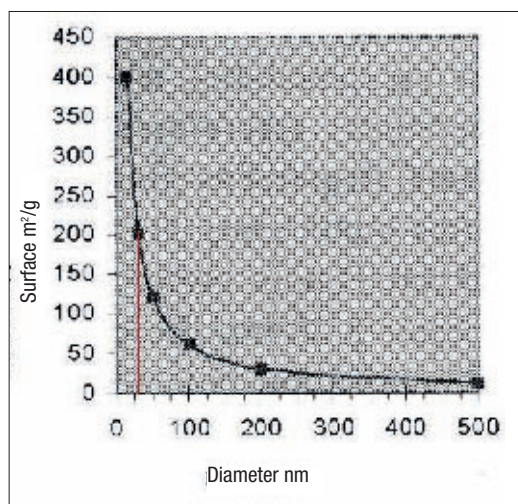

Fig. 1. Specific surface (see [3]).
3. High surface area. This is illustrated in Fig. 1, which shows that conventional latex has a specific surface area of around 20 m²/g, ten times lower than that of nanolatex.